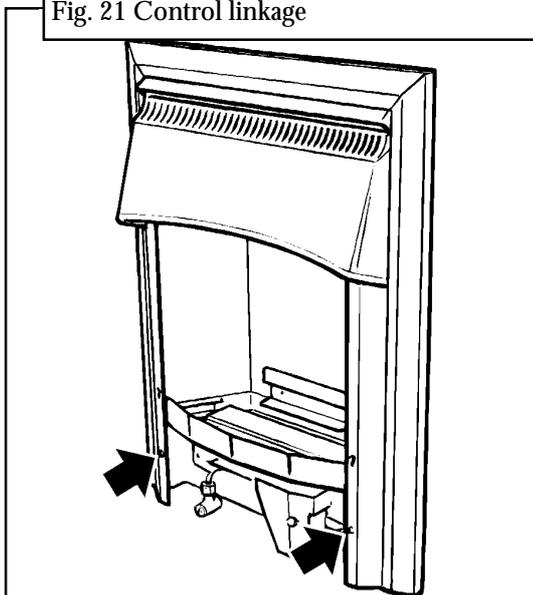

Fig. 22 Outer surround sides attachment
9.4 Place the surround fully back in position. Secure the surround sides to the convection box brackets with the two screws provided (See figure 22).